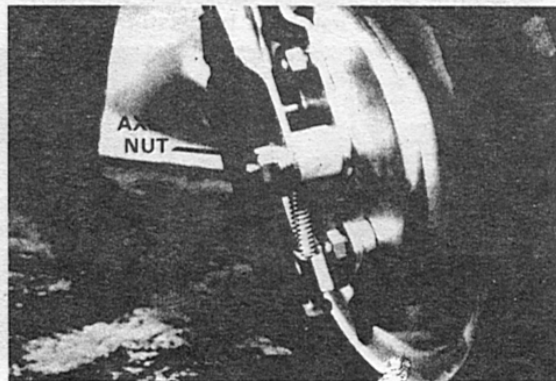

Fig. 42
A. Removing the Front Wheel (Figure 42)